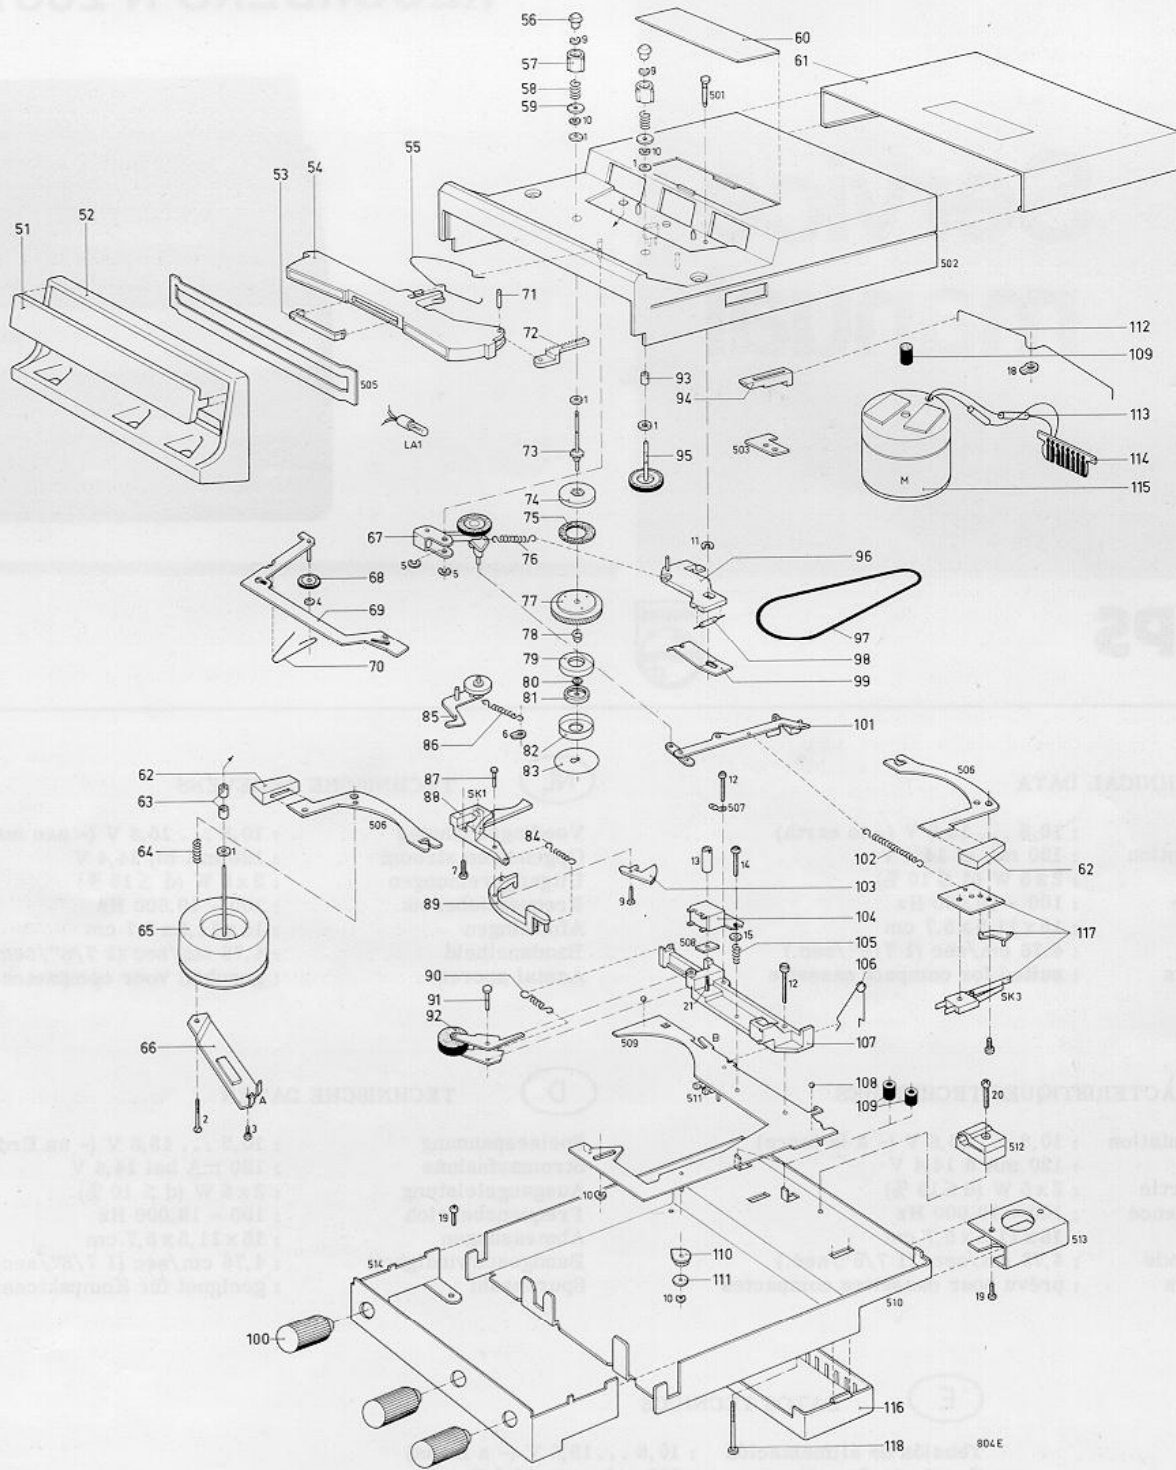

Fig. 1
**D** WIRKUNGSWEISE (Abb. 1)
**E** FUNCIONAMIENTO (Fig. 1)
Playback head (Fig. 1)